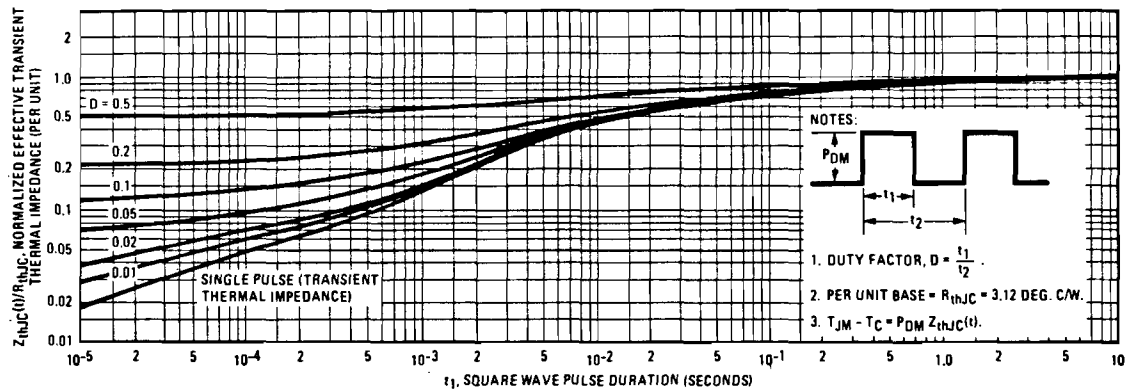

Fig. 5 – Maximum Effective Transient Thermal Impedance, Junction-to-Case Vs. Pulse Duration
①  $T_J = 25^\circ\text{C}$  to  $150^\circ\text{C}$ . ② Pulse Test: Pulse width  $\leq 300\mu\text{s}$ , Duty Cycle  $\leq 2\%$ .
③ Repetitive Rating: Pulse width limited by max. junction temperature. See Transient Thermal Impedance Curve (Fig. 5).